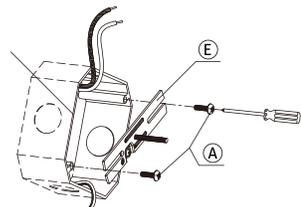

Fig 2-1
1. Turn OFF power before installation. Secure the Mounting Bracket (**E**) to the junction box with Machine Screws (**A**) provided. (Fig 2-1)